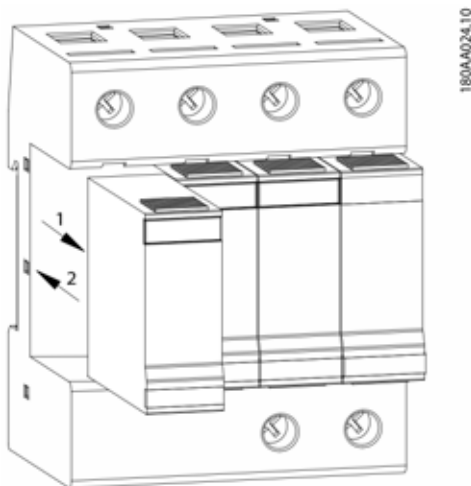

Figure 1.2 AC surge arrester (3)
4. Pull out the defective surge arrester. See (1) in figure 1.2 and (1) in figure 1.3.
See (2) in figure 1.2 and (2) in figure 1.3.